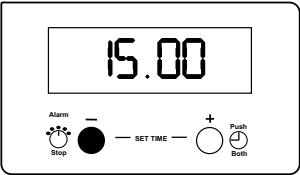

Fig.8
To stop the sound press button (1). The bell symbol will go out and show the time of day e.g. 15.00, see Fig 8.